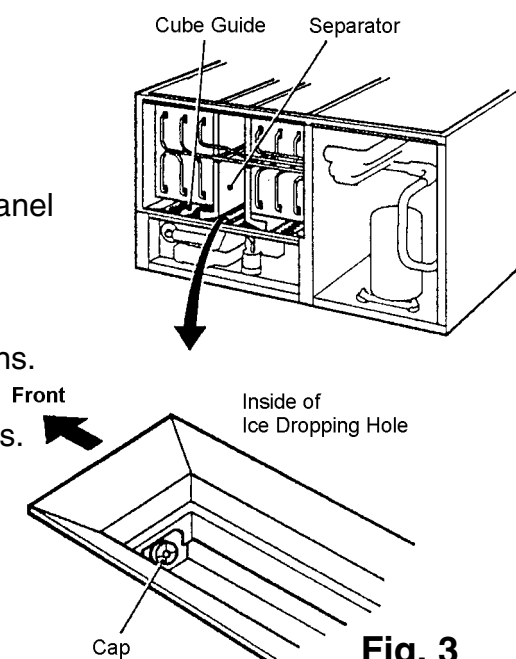

Fig. 3
- 3) Drain the water tank by removing the insulation panel and the cap at the front of the ice dropping hole. See Fig. 3.